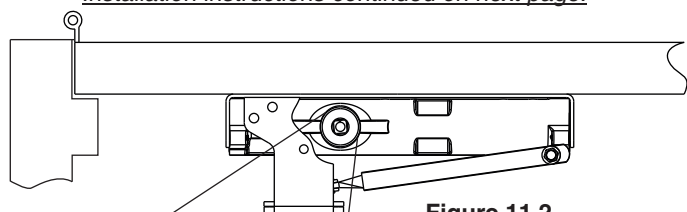
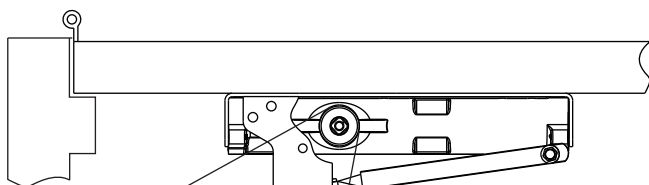
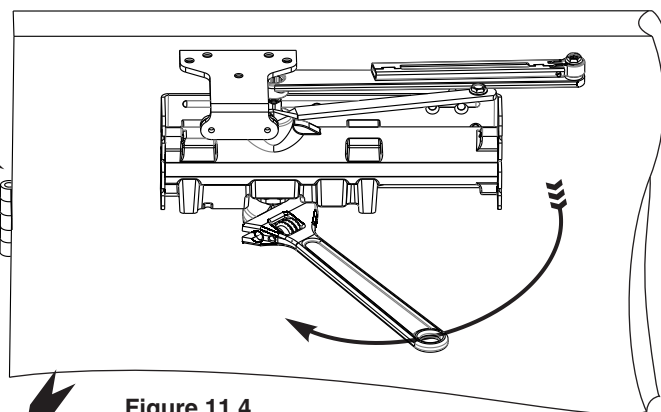

Figure 11.2
Figure 11.3
Figure 11.4
- See Figure 11.2 for Timing Mark. Placing a wrench on under side of pinion, rotate wrench approximately 45° toward hinge edge of door as shown (Figure 11.4) until Timing mark is oriented as shown in Figure 11.3.
- Immediately place arm on pinion (Figure 11.4) so that it is parallel to door face (Figure 11.5); secure in place with arm screw and washer assembly provided.